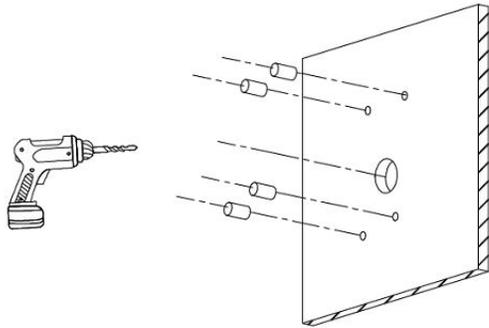

Figure 2-1
Step 1 Measure and drill out the mounting holes and cable exit, if necessary. Install the anchor screws into the mounting holes. See Figure 2-1